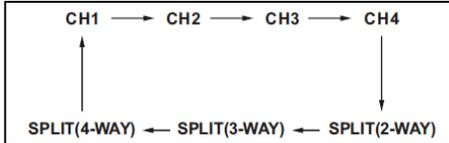

Figure 1: Source Select Sequence (All Source Options "On")
- Pressing the SELECT button to sequence the source input modes as Figure 1.